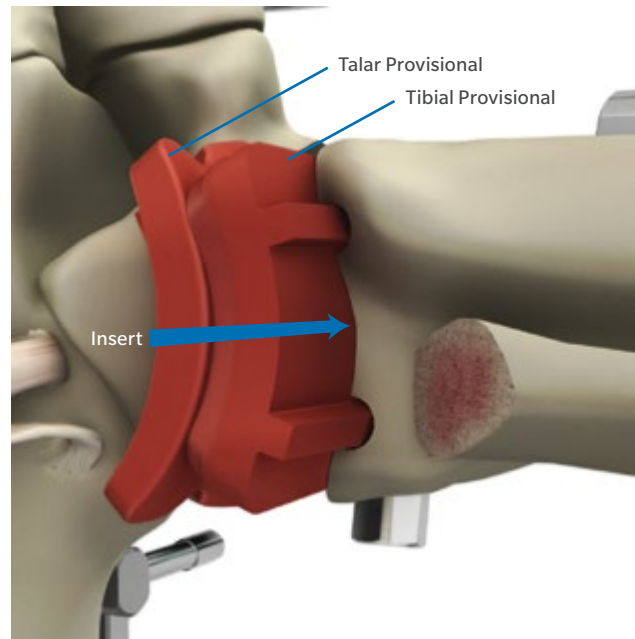

Fig. 79
- Manually insert the appropriate size and side (left or right) Talar and Tibial Provisionals into the prepared joint space (Fig. 79).